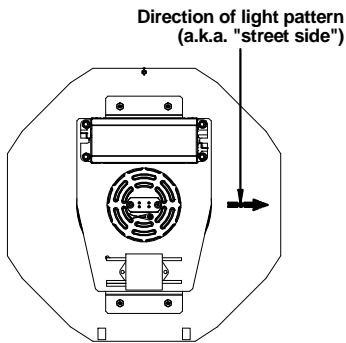

FIG. 4-1A
1. Note direction of light pattern with arrow on deck. (FIG. 4-1A)